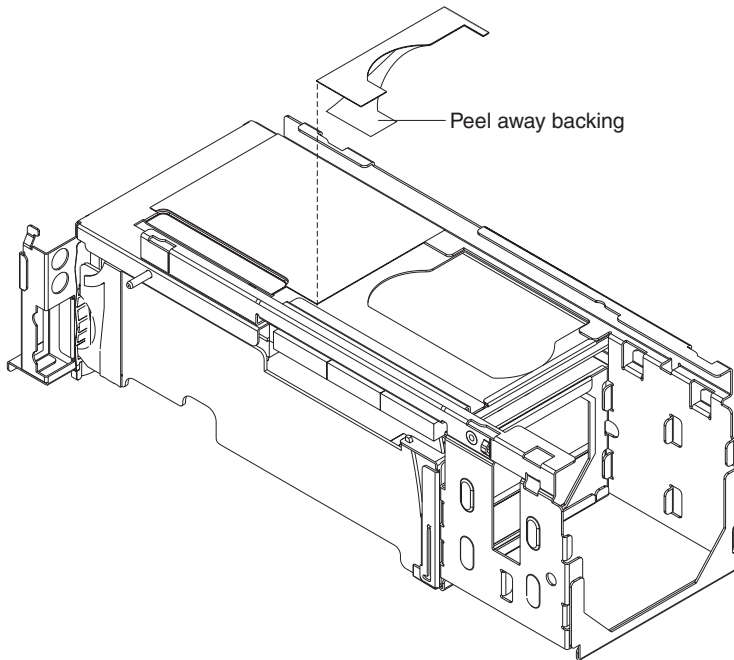

Figure 17. Installing the insulator on the PCI brick
- b. Remove the insulator (shipped with the Option Kit) from its adhesive backing and position it over the underside of the PCI brick as shown in Figure 17, placing it so that the curve in the insulator aligns with the curve in the sheet metal.